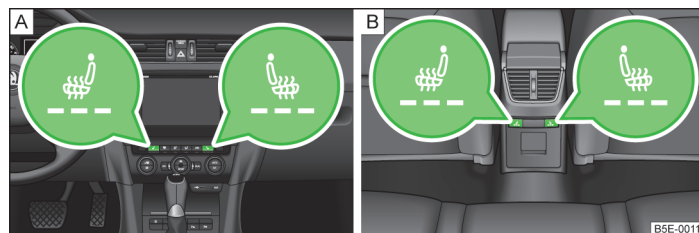

Fig. 51 Heating: Front seats/ rear seats
- Press the symbol button or » Fig. 51.
By pressing the button once, the heating is switched to the highest intensity - level 3, which is indicated by three of the warning lights underneath the switch » Fig. 51 - **A** or in the button » Fig. 51 - **B** lighting up.